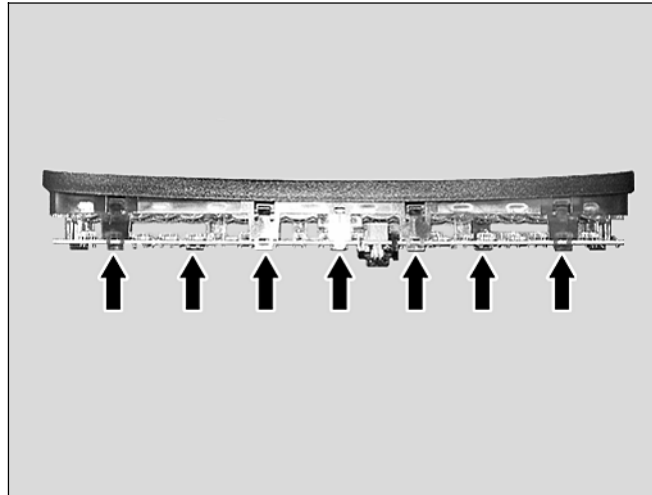

Figure 1
8. Unclip the diode set from the housing of the center high-mounted stop lamp (Figure 1).